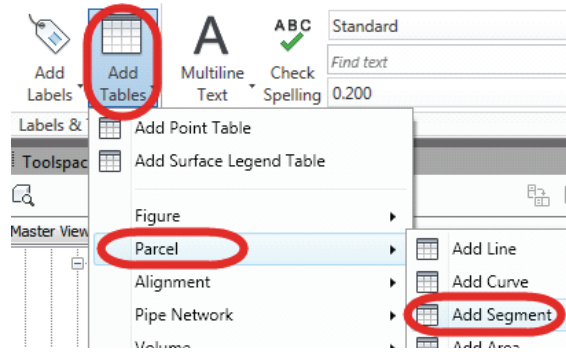

Figure 2–54
- In the Table Creation dialog box, click  (Select on screen) and select the labels shown in Figure 2–55. Press <Enter> when done.